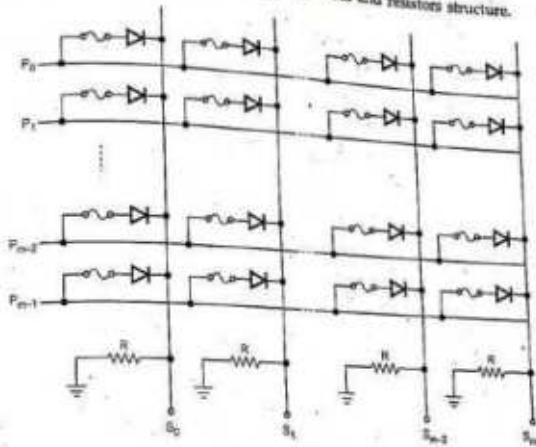

Fig. 7.12.7
- Fig. 7.12.7 shows the OR gates formed by diodes and resistors structure.